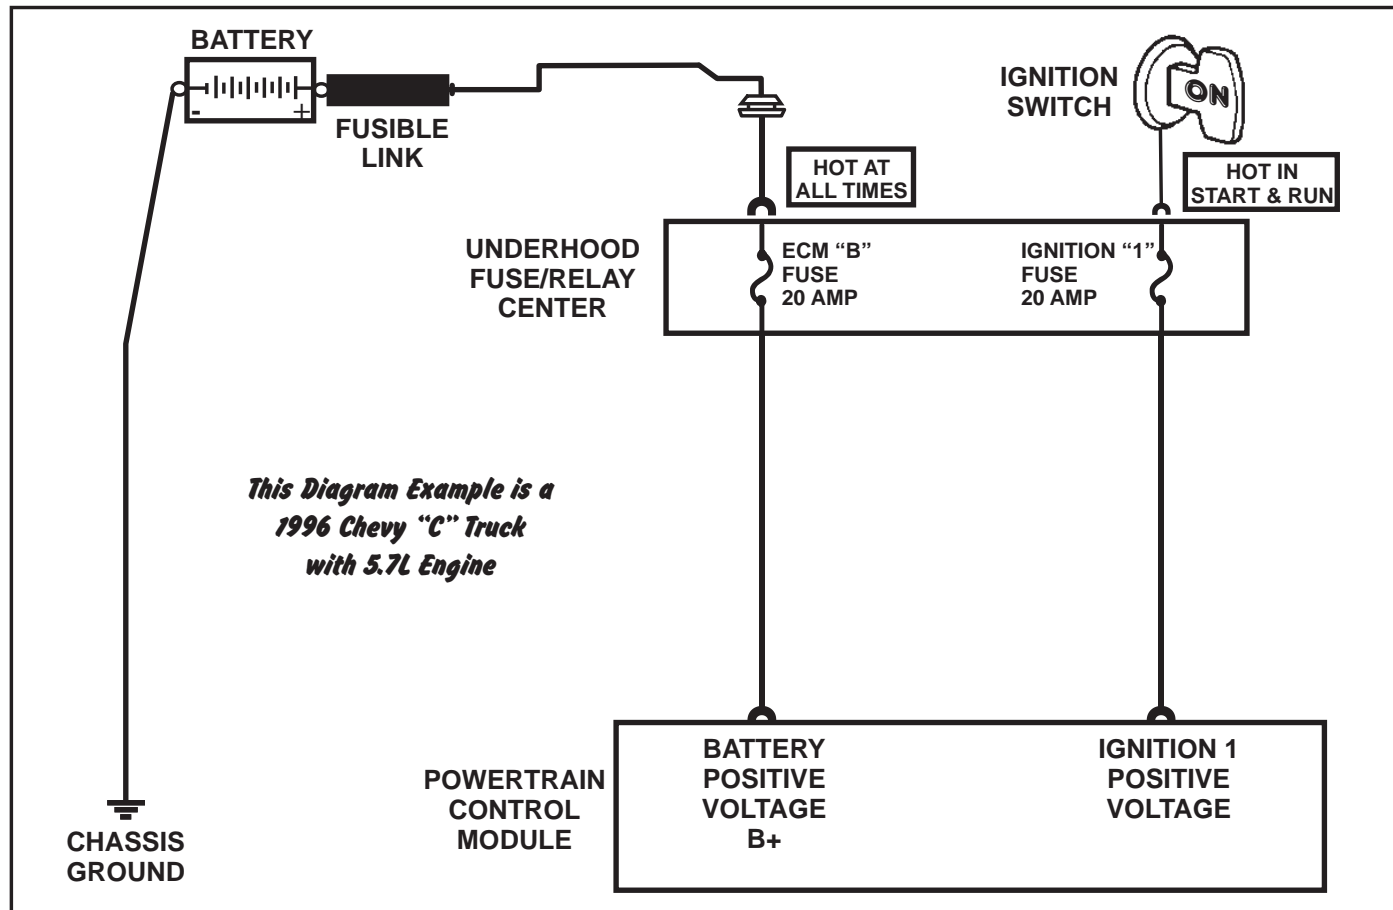

Figure 145
- The power supply circuits to the computer are fuse protected circuits, always check fuses when there is no power on the circuit being checked, Refer to Figure 145. (Remember, high resistance can cause a lesser amount of voltage than is required on a circuit, therefore circuit test lamps, unless specifically designed for the task, should not be used.
- “Keep Alive” direct battery feed circuits are usually connected directly to the battery positive accessory lead or the starter solenoid. These are usually protected by fusible links which are designed to break apart when current becomes too high thereby breaking the voltage supply, high resistance is also a factor with these fusible links, (Refer to Figure 145).
- The power supply circuits to the computer are fuse protected circuits, always check fuses when there is no power on the circuit being check, Refer to Figure 145). (Remember, high resistance can cause a lesser amount of voltage than is required on a circuit, therefore circuit test lamps, unless specifically designed for the task, should not be used.